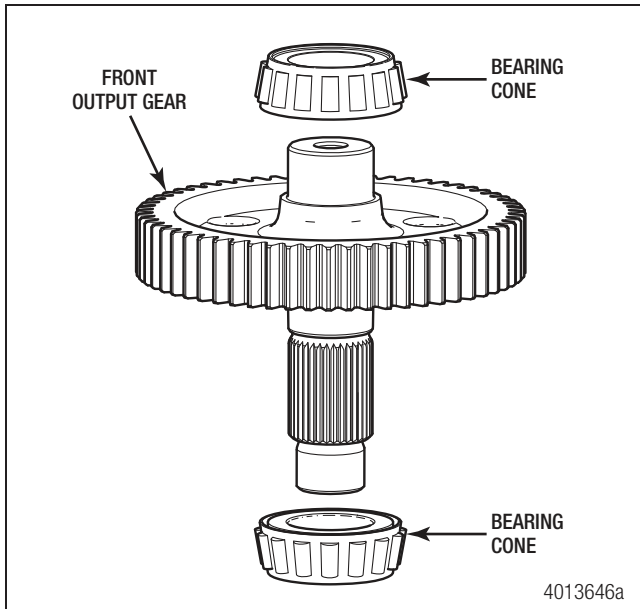

Figure 6.4
1. Install a bearing puller on the bearing cone under the front output gear. Figure 6.4.